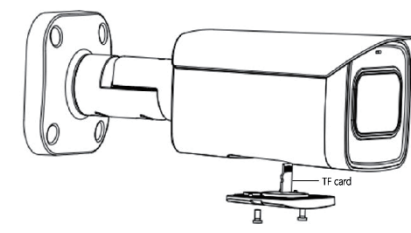

Figure 2-1 Installing TF card
1. Install TF card (optional): This series of cameras support TF card storage, unscrew the white cover at the bottom of the device and put the TF card. Install it into the card slot. If you need to remove the TF card, lightly press the TF card to eject it, as shown in Figure 2-1.
1. Separate the fixed cover and the base: first loosen the fixing screws, and take out the fixed cover, sphere and base in sequence, as shown in Figure 2-1.